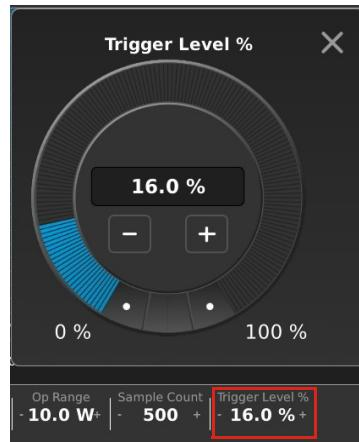

Figure 6-11. Trigger Level Percent Setting
- a.) Press **Trigger Level%** in the bottom button bar. A dial displays to select the percentage. Refer to Figure 6-11.